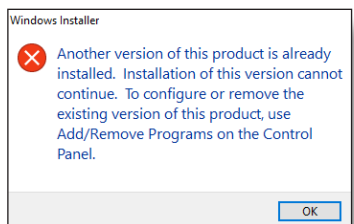

Figure 2: Installation error message
2. Run the **UnconfinedSetup** file and follow the prompts on the screen. The software should detect any previous versions and uninstall them automatically. If a Windows Installer message appears (Figure 2), follow the prompts and uninstall the previous version of the software. Once installation is complete, close the installer.